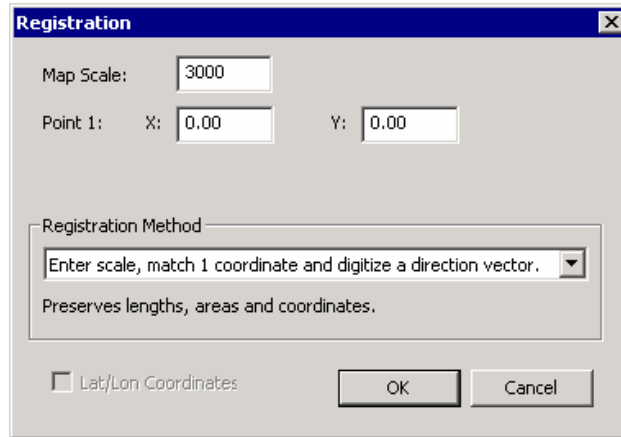

Figure 7.8: Mapsheet Orientation Dialog
6. Select menu Digitizing | Mapsheet Setup (for digitizing) and the *Mapsheet Orientation* dialog box will appear. Select “Enter scale, match 1 coordinate and digitize a direction vector” and set the scale and origin to match those shown in Figure 7.8 below.